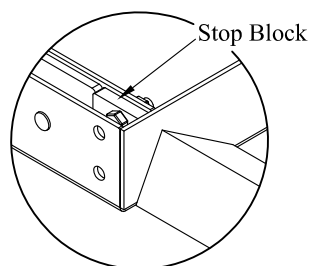

Figure 1: Driver side tire rack.
1. **Remove** and **Save** the stop blocks and hardware on both sides of the tire rack (Figure 1).